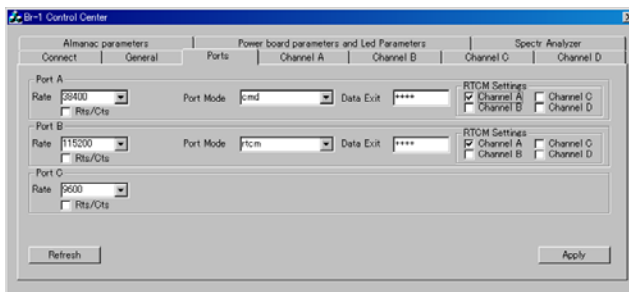

Figure 2-8. Configure RTCM Settings
7. Click Apply to save your settings (Figure 2-8).